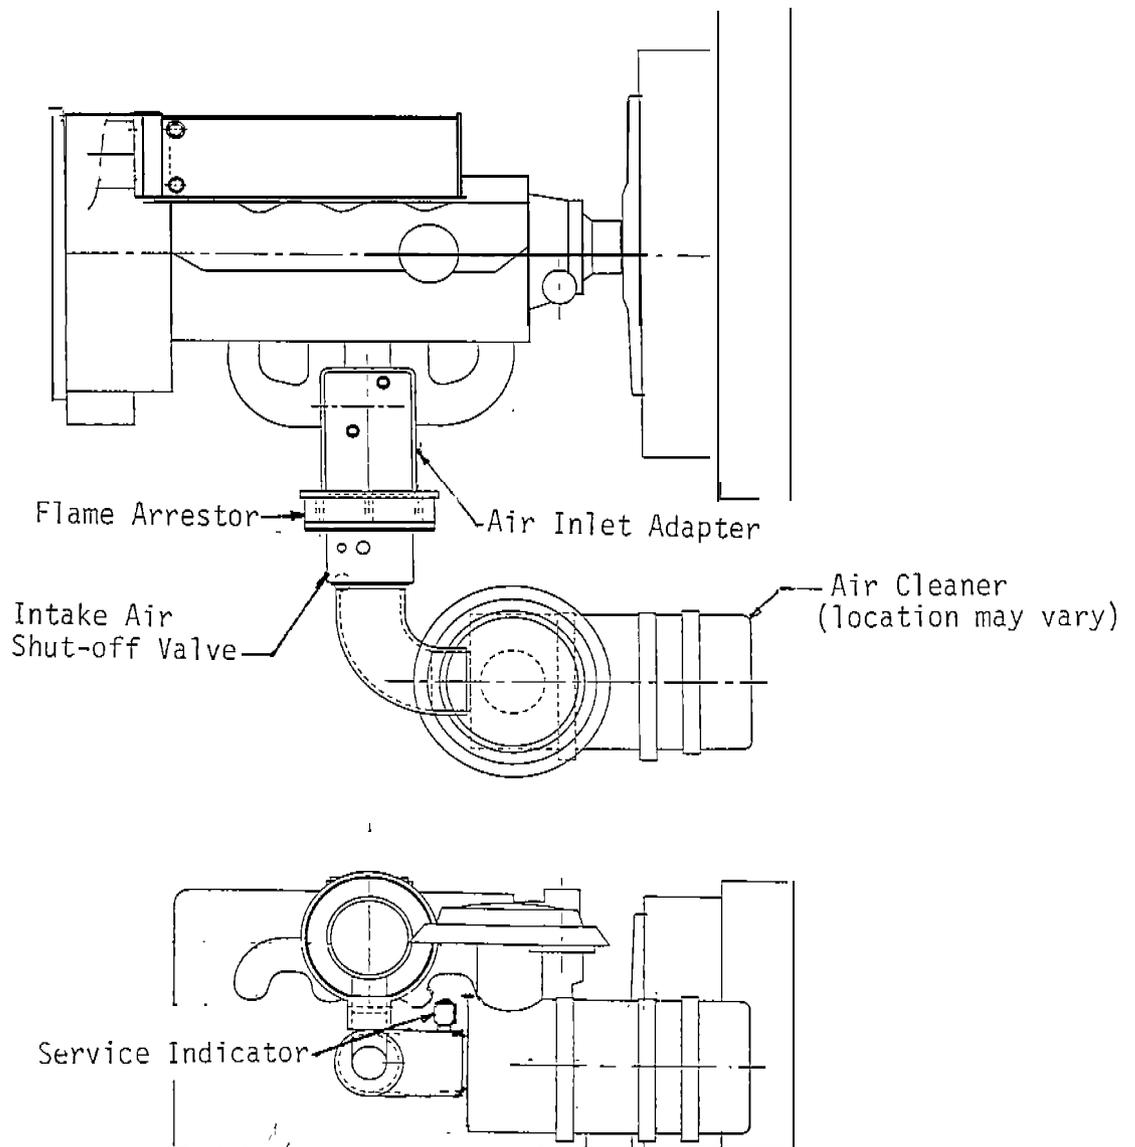

Figure 1. Assembled Intake System
Figure 1 shows the assembled Intake System.
- (WEEKLY) 3. ( ) All components appear to be the same as those shown in Figure 1.